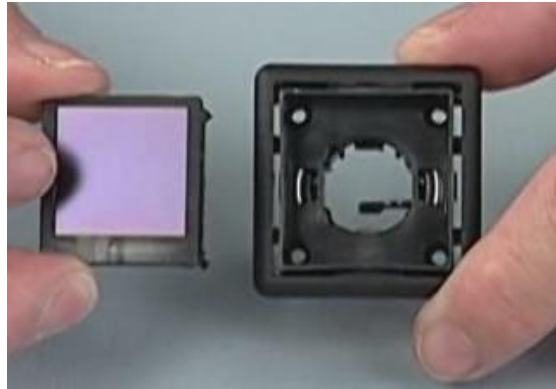

Figure 13
- Looking at the top of the OLED display shows three out of four sides that are the same thickness while the bottom edge is noticeably thicker. The thicker side will need to be installed at the bottom of the bezel assembly. See Figure13.